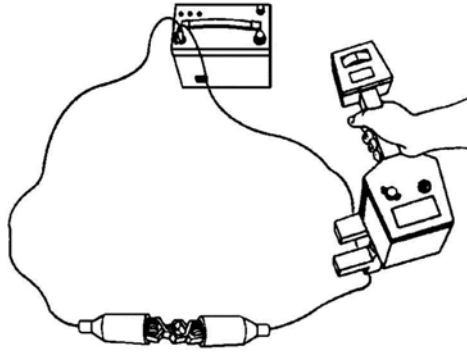

Figure 3-3: Configuration for Testing the Conductive Attachment
- 12 Connect the BLACK and RED ends of the Conductive Attachment together. Lay the connected wires out on the floor in a circular configuration (see Figure3-3). Plug the Conductive Attachment into the DIRECT/4820 CLAMP jack of the Transmitter.